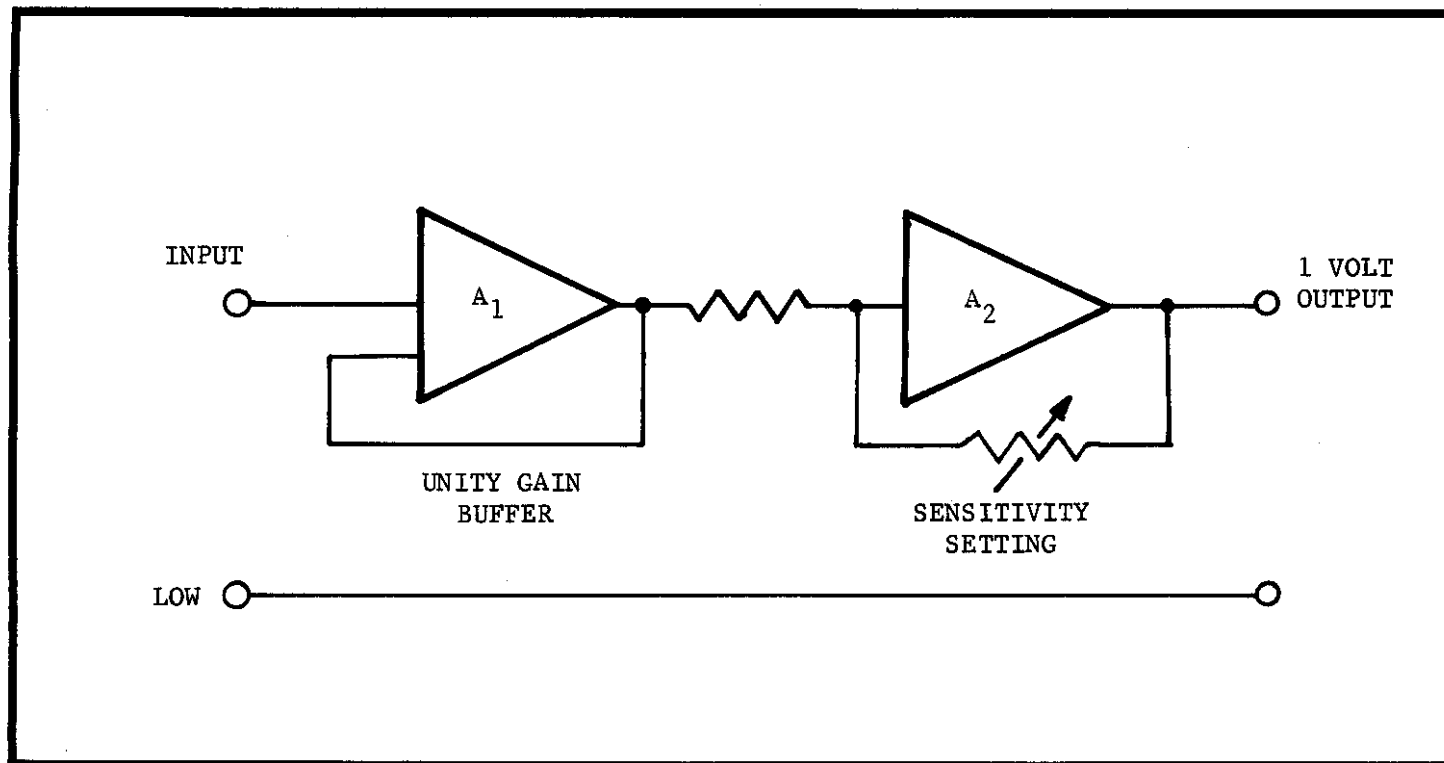

FIGURE 24. Simplified Diagram of Amplifier Section.
**a. Input Amplifier.** This amplifier  $A_1$  is shown in simplified form in Figure 24. (Refer to schematic 25764E). The input signal applied between HI and LO (J120) is amplified by the input MOS-FET amplifier composed of transistors Q101A and Q101B. Transistors Q102A and Q102B are used for over-voltage protection (base-emitter connected). Integrated circuit QA101 provides high gain (approx. 100,000) for the electrometer amplifier section. Potentiometer R123 is an internal zero adjustment used for calibration purposes. Potentiometer R119 is a front panel ZERO control with adjustment capability of approximately 3 mV. Transistors Q105 and Q106 are complementary output stages which provide a maximum of  $\pm 200$  volts at the "X1" terminal (J118). The electrometer amplifier is connected in a unity-gain configuration. Input resistance between HI and LO is greater than  $2 \times 10^{14}$  ohms in "VOLTS" function.
e. Voltage Sensitivity. This amplifier A2 is shown in Figure 24. (Refer to schematic 25776D). The second stage variable-gain amplifier is composed of a FET stage (Q301A, Q301B) and an integrated circuit QA301. Gain is determined by resistors RN301 (A to F) where: